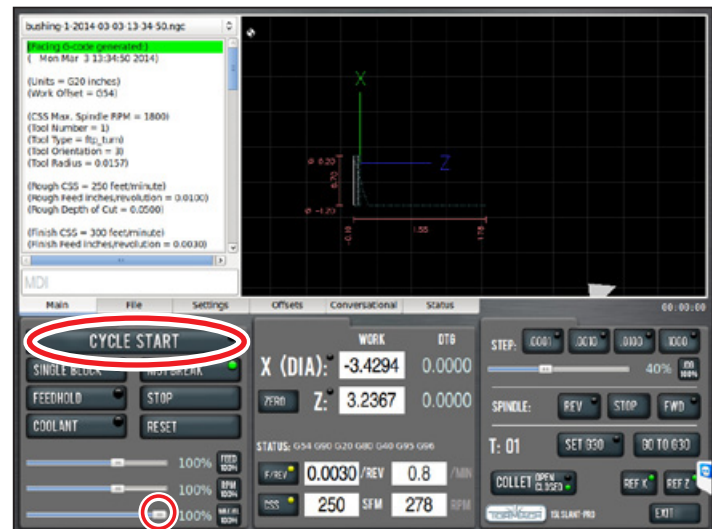

Figure 4.18
1. Click and drag the *MAXVEL slider* (see **Figure 4.18**) to bring it down to zero percent.
2. Click *Cycle Start* (see **Figure 4.18**). If the current tool is not tool 1 and the machine is configured for manual tool changes, the *Cycle Start* LED may blink requesting a tool change. Change the tool in your quick change tool post and confirm by clicking *Cycle Start* again.